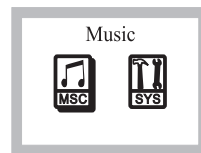

Fig. 15
- (K) Enter the Main Mode: USB flash drive or SD card is not inserted.
- (1) Music Mode: Insert USB flash drive or SD card and press Parameter knob to play music, Fig. 15.